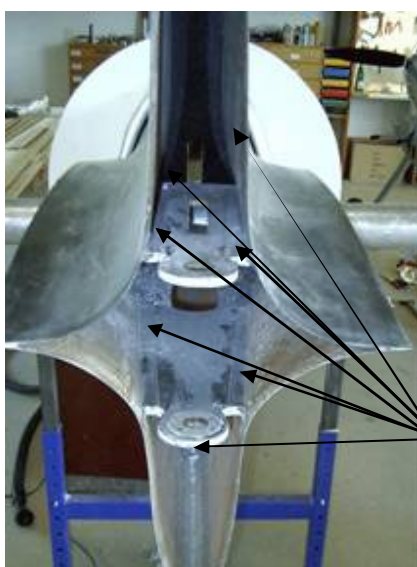

Fig. 3.12.1
1. Insert the carbon fiber honeycomb ribs (rib set no. 48000004) into the rudder fin as shown in figure 3.12.1 and fix it with super glue. Laminate all joins with 40mm (1.57") fiberglass tape. The carbon fiber ribs in the rudder assembly are aligned according to the bonded brackets.